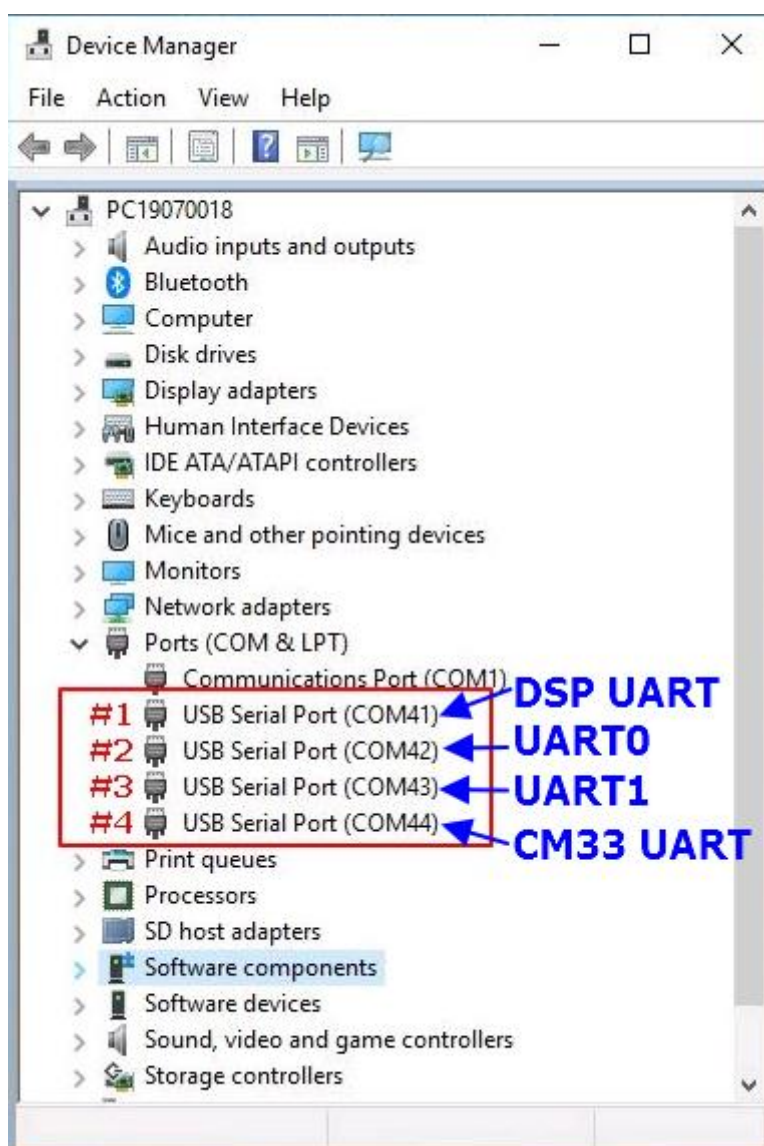

Figure 3. COM port associated with the MT7931 HDK
6. In **Device Manager**, navigate to **Ports (COM & LPT)** (see Figure 3).
7. A new **COM** device should appear under Ports (**COM & LPT**) in **Device Manager**, as shown in Figure 3. Note the **COMx** port number of the serial communication port. This information is needed to send command and receive logs from the **COM** port.
The com port numbers (**COMx**) are different at different PC. In order to check the function of each com port, you can recognize the order of these com ports. As Figure 3 shows, the first com port (#1) means “DSP UART”, the second com port (#2) means “UART0”, the third com port (#3) means “UART1”, and the fourth com port (#4) means “CM33 UART”.
4. Check the **Device Manager** at PC. There are 4 USB serial ports as Figure 3 shows.